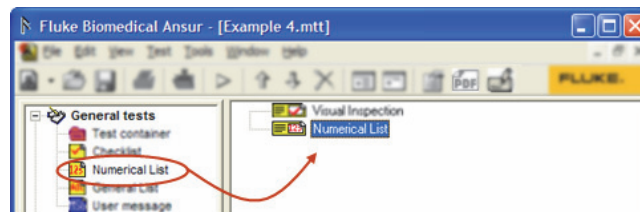

Figure 3-36. Adding a Numerical List
4. Release the left mouse button. A copy of the test element is displayed as shown in Figure 3-36.